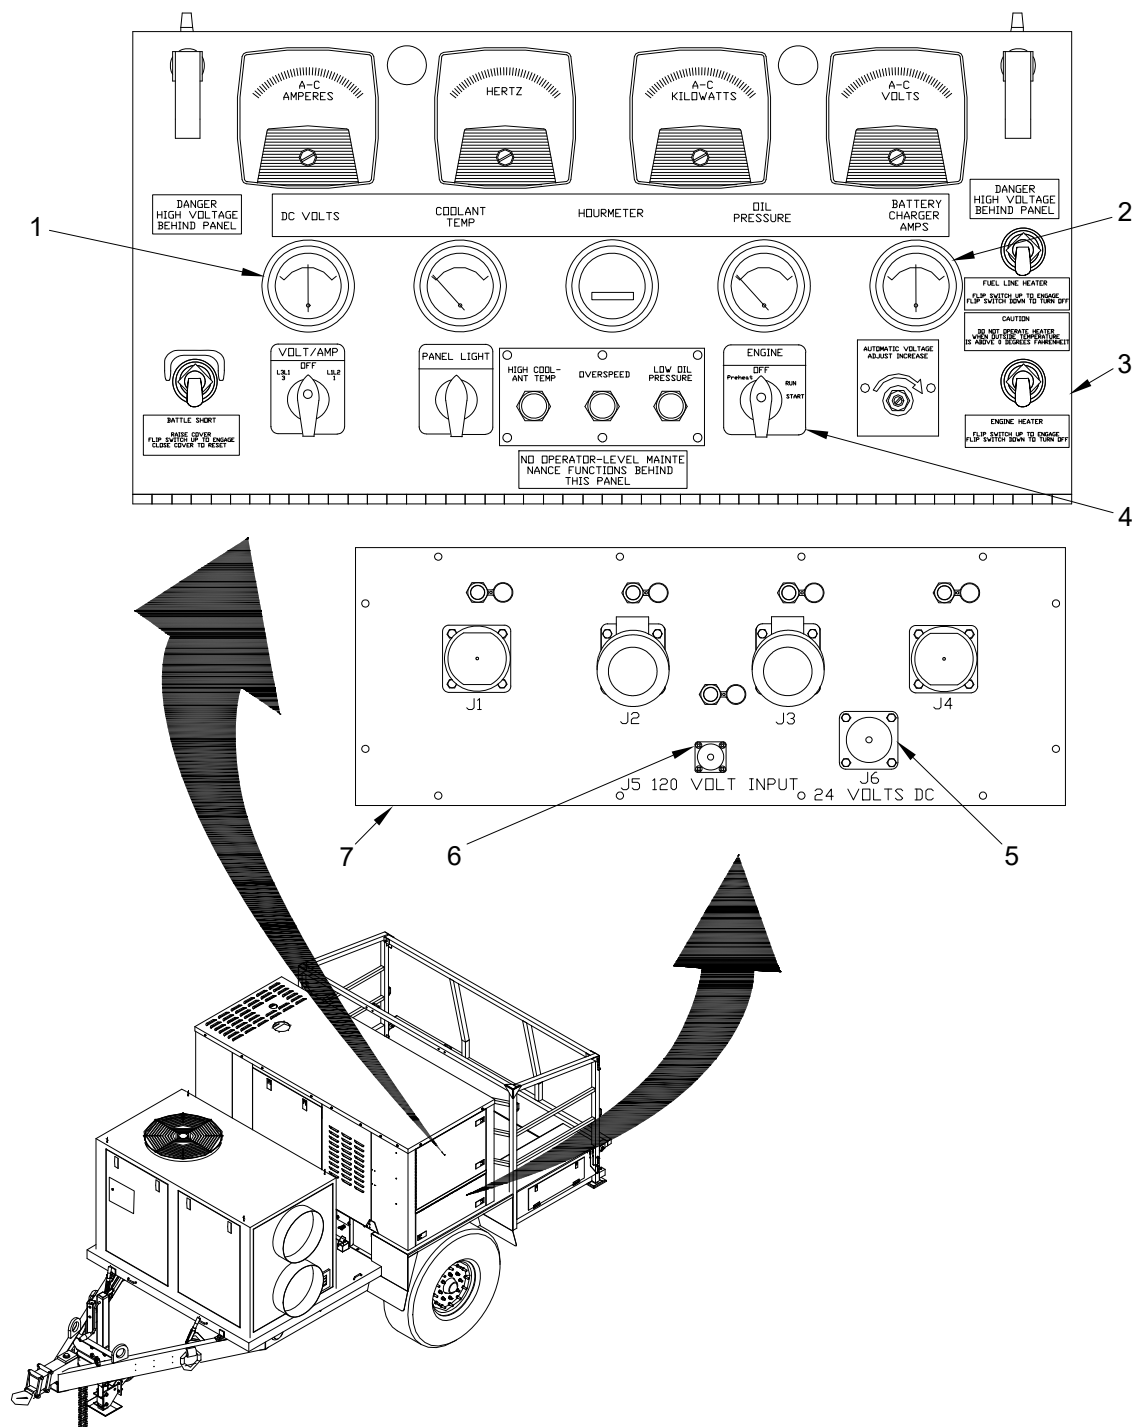

Figure 1. Location of Connectors and Meters for 24 VDC Battery Charging.
1. Connect appropriate NATO cable to 24 VOLTS DC (J6) (Figure 1, Item 5) of Genset Power Distribution Panel (Figure 1, Item 7) and to 28 VDC power source.
4. Set ENGINE switch (Figure 1, Item 4) on the Generator Power Distribution Panel to the RUN position.
5. Observe DC VOLTS meter (Figure 1, Item 1) on Genset control panel (Figure 1, Item 3). See (Table 1) for normal meter indications. If battery does not charge (DC VOLTS meter should read between 24 to 28 VDC) after eight hours, continue charging for an additional four hours.
1. Connect battery charger cable (provided with the trailer) to 120 VOLT INPUT (J5) (Figure 1, Item 6) on the Genset Power Distribution Panel and to 120 VAC power source.
5. Observe DC VOLTS meter (Figure 1, Item 1) on Genset control panel (Figure 1, Item 3). See (Table 1) for normal meter indications. If DC VOLTS meter does not read between 24 to 28 VDC after eight hours, continue charging for an additional four hours.